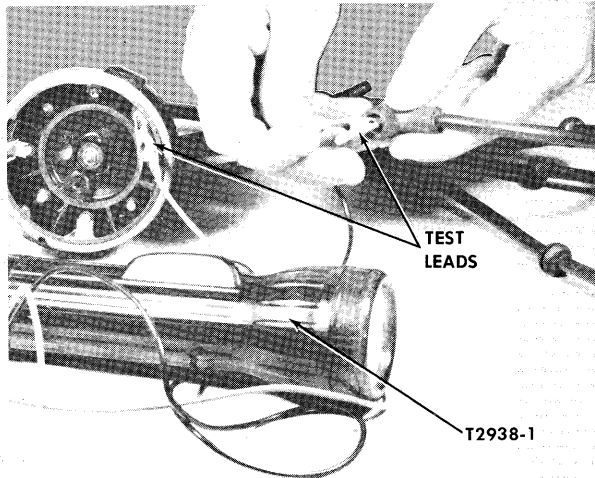

Figure 2 – Checking Lead Wire Continuity
- C. Draw distributor cover against cap using two (2) screws and tighten until screws are bottomed.
- D. Check each lead wire continuity by using test light (Special Tool T2938-1) as shown in figure 2.